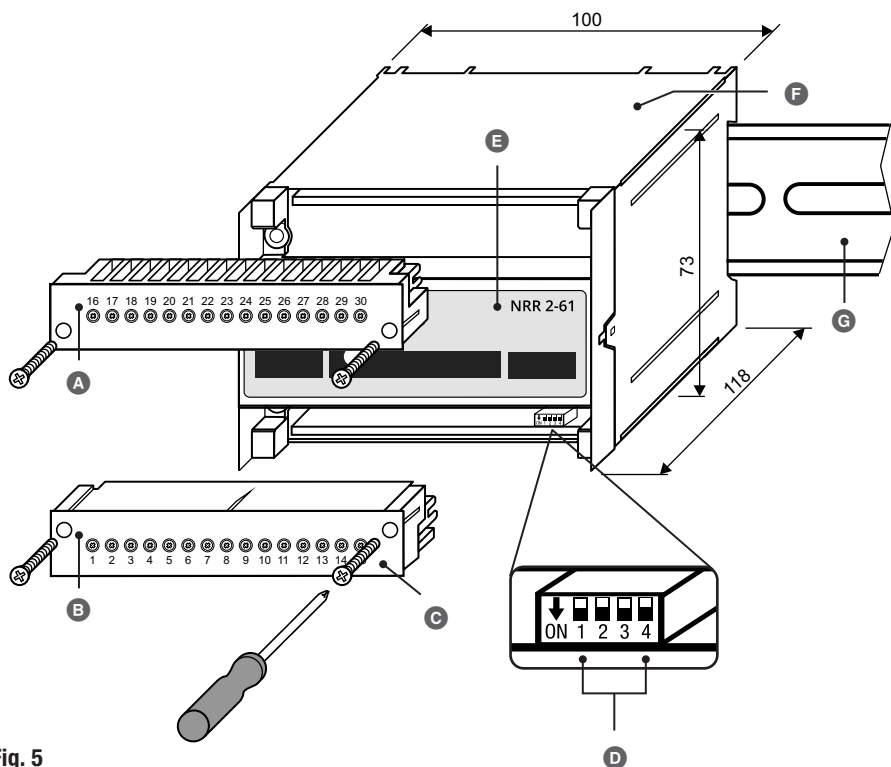

Fig. 5
You can change the baud rate and controller group of the NRR 2-61 level controller at any time using code switch  (see **Fig. 5**).
2. Unscrew and pull off the lower terminal strip, see **Fig. 5**.
3. Set code switch  (see **Fig. 5**) as desired, see page 23, **Fig. 9**.
For operation, you must define the controller group and baud rate for the level controller on code switch **Ⓢ** Fig. 5. The desired controller functions are achieved by connecting the different level electrodes and configuring the URB 60 visual display and operating unit as appropriate.